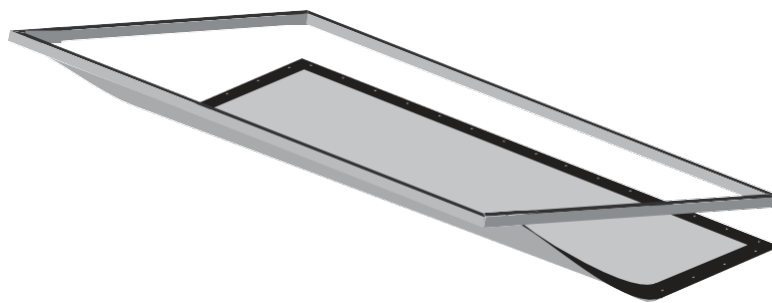

Figure 11: Attaching Remaining Snaps
6. Lift the frame to a vertical position to finish attaching the sides and bottom row of the snaps (see Figure 11).